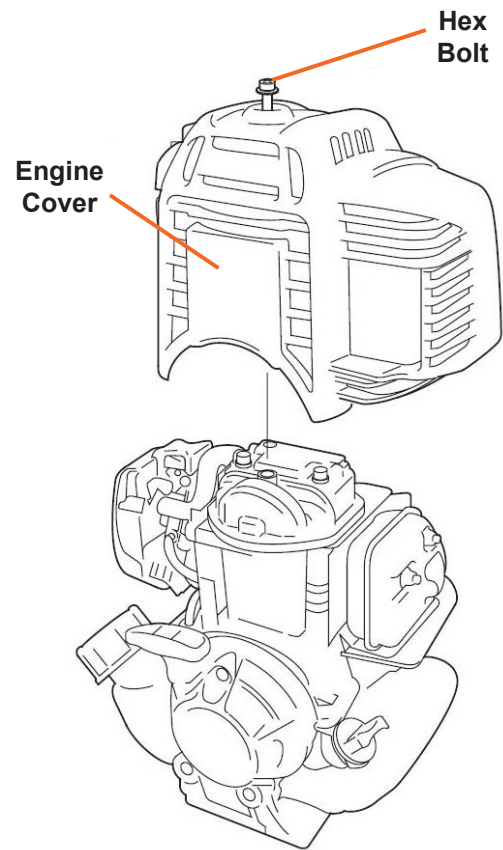
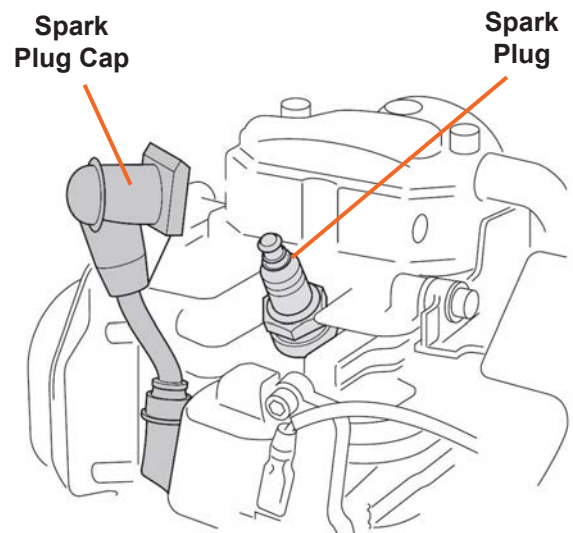

Figure 9
Figure 10
1. Remove the hex bolt on top of the engine cover (remove two hex bolts on the top of the cover on the DHT engine model) and slide the cover off (see Figure 9). Disconnect the spark plug cap, and remove any dirt from around the spark plug area. Remove the spark plug with a 5/8-inch spark plug wrench (see Figure 10).
1. Remove the 5mm hex bolt on top of the engine cover and slide the cover off (see Figure 9).